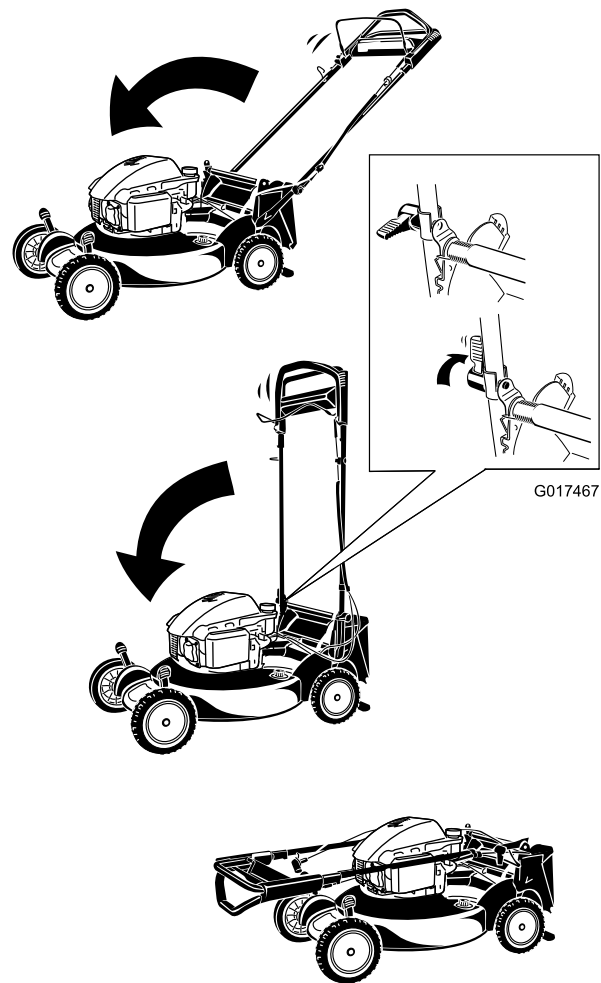

Figure 30
1. Rotate the handle forward (Figure 30).